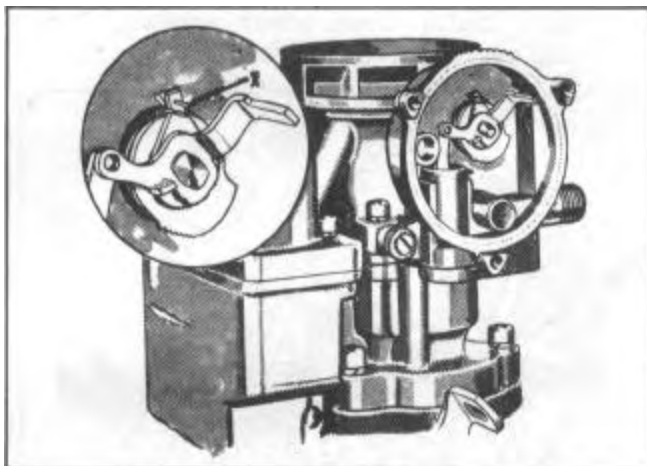

FIGURE 87
23. Connect the fast idle cam spring to the choke piston lever at (X), Figure 87.